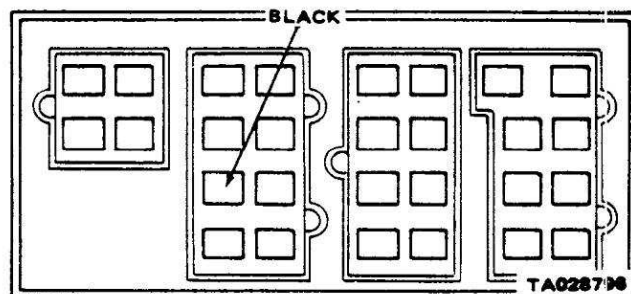

Figure 2-42. Bulkhead Connector (Black Wire).
(3) Check for battery voltage where the black wire comes out of the bulkhead connector on the firewall (figure 2-42). Push the red test lead in from the back of the connector and connect the black lead to a good ground.